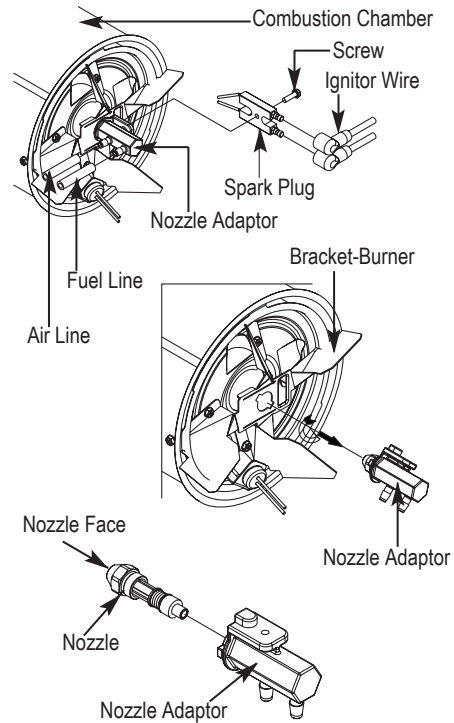

Figure 17 – Nozzle Replacement CP210EK
- Turn nozzle adaptor 1/8 turn (45°) to counter clock wise and pull toward motor to remove. (See Figure 17)